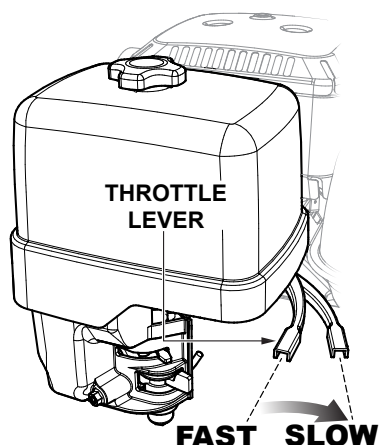

Figure 26. Throttle Lever (Idle)
1. Place the throttle lever (Figure 26) in the slow (idle) position, and let the engine idle 3~5 minutes.